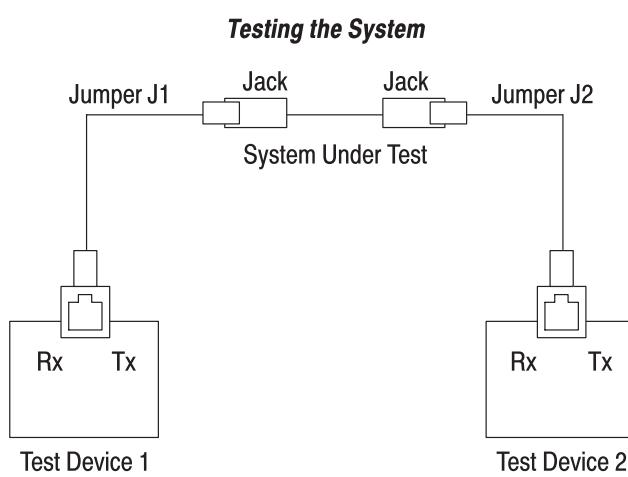

Figure 9
B. Testing the System (Figure 9)